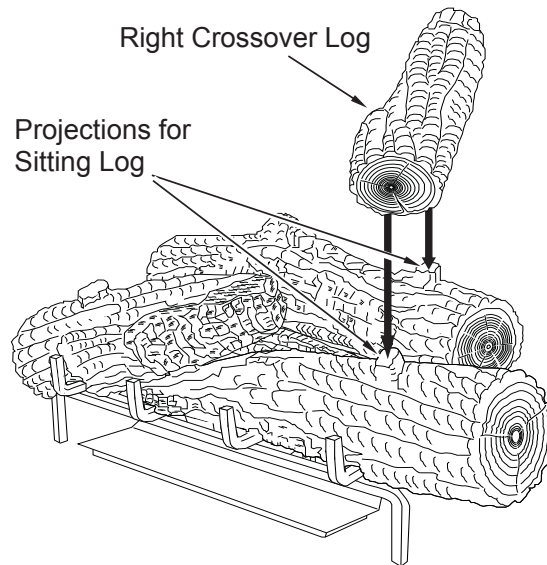

Figure 54 - Installing Right Crossover Log
5. Place the right crossover log onto the rear log and the right front log as shown in **Figure 54**. The right crossover log has notches in the bottom that will line up with the projections on the rear log and the right front log.